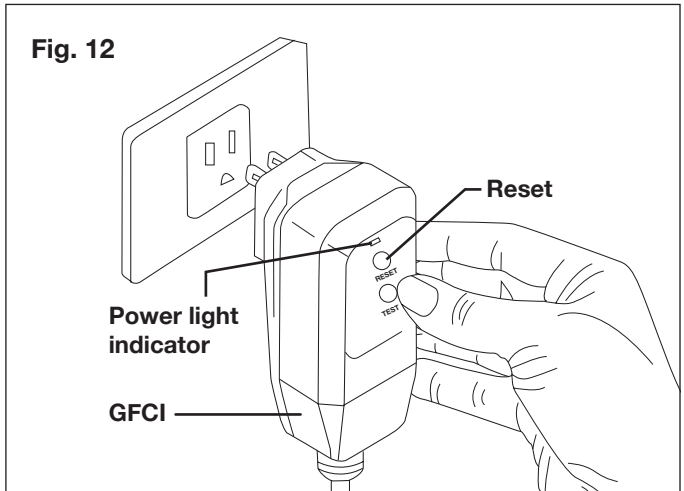

Fig. 12
12. Check that the electrical supply voltage and frequency (Volt/Hz) correspond to those specified on the pressure washer rating plate. If the power supply is correct, you may now plug the pressure washer into the power outlet (Fig. 12).